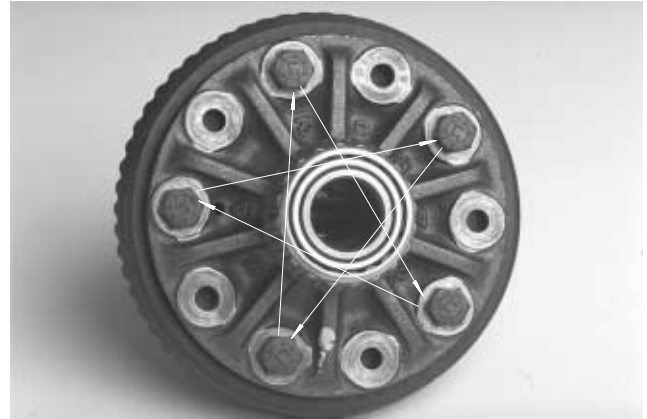

Figure 54
9. Position ring gear (32) to the differential case (27). Secure ring gear to the case with five cap screws (26) in a criss-cross pattern so the gear is pulled evenly into place. Torque cap screws from 58 to 65 ft-lb ( 8.1 to 9.0 kg-m) (Fig. 54).